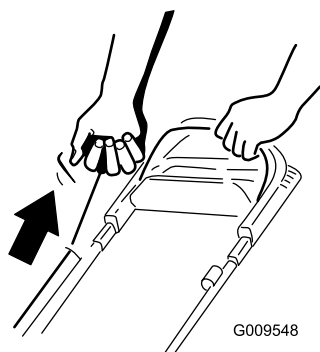

Figure 14
- If the oil level is above the Full mark on the dipstick, drain the excess oil until the oil level is at the Full mark on the dipstick; refer to Changing the Engine Oil (figure 14).
2. Pull the recoil-start handle (Figure 14) lightly until you feel resistance, then pull it sharply, and allow it to return to the rope guide on the handle slowly.